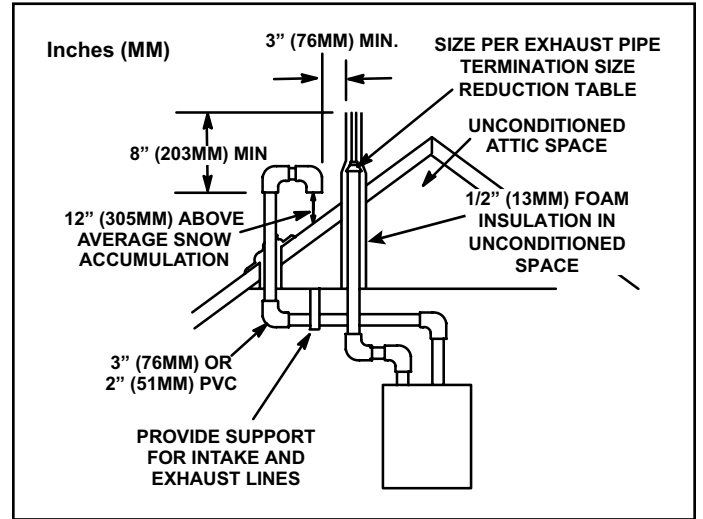

Figure 37. Direct Vent Roof Termination Kit (15F75 or 44J41)
3. On roof terminations, the intake piping should terminate straight down using two 90° elbows (Figure 37).